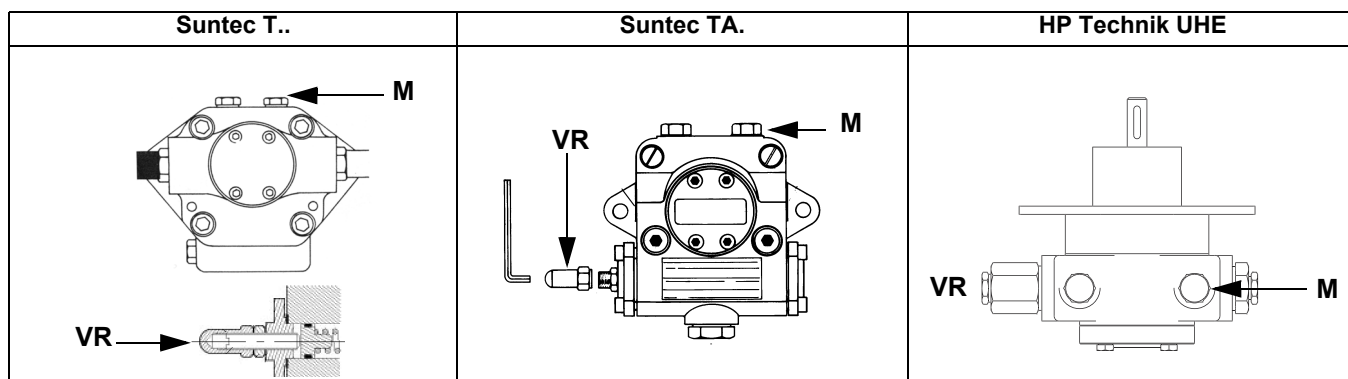

Fig. 26
- 3 bleed the air from the **M** pressure gauge port (Fig. 26) by loosening the cap without removing it, then release the contactor.
- 5 Only if necessary, adjust the supply pressure as follows (see related paragraph); insert a pressure gauge into the port shown on Fig. 27 and act on the pump adjusting screw **VR** (see Fig. 26) as to get the nozzle pressure at 20bar (Monarch or Fluidics nozzles - see page 44-38).